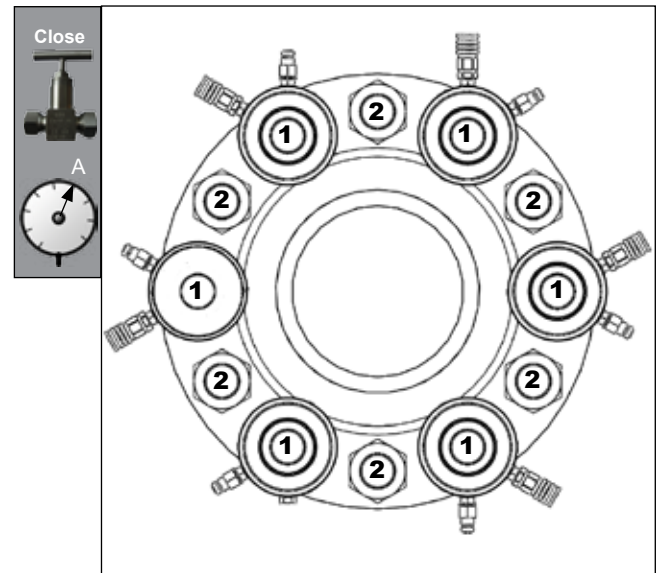

Fig 7.5
1. Ensure the two halves of the bolted joint are fully aligned. Number each bolt alternatively "1" and "2". Refer to fig 7.5.
2. Fit the tensioners to all the bolts marked "1", refer to section 6.0 for installation instructions. Refer to Fig 7.5